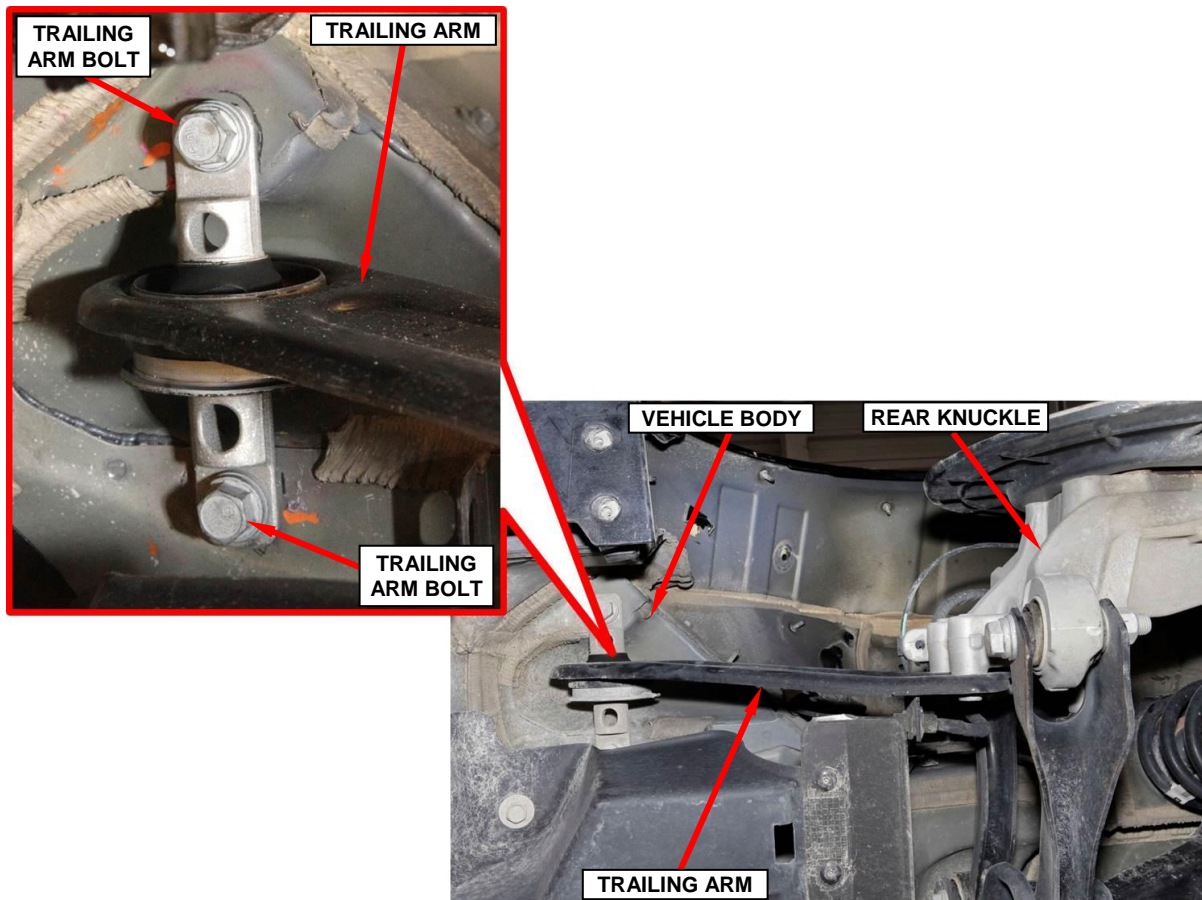

Figure 2 – Rear Suspension Link Trailing Arm
4. Rear suspension link trailing arm to the vehicle body bolts on the left and right side, four bolts total. Tighten the bolts to 77 ft. lbs. (105 N·m) (Figure 2).